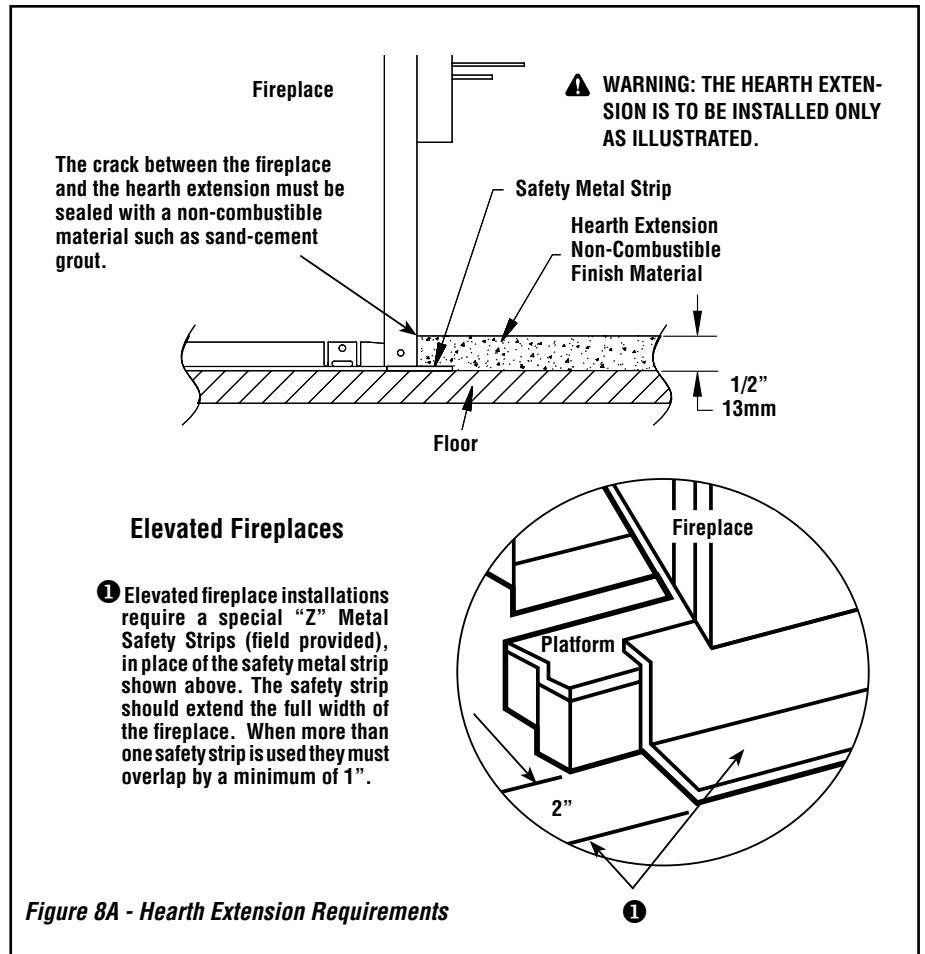

Figure 8A - Hearth Extension Requirements
(refer to **Figures 8A and 8B**)
2. The hearth extension should be secured to the floor. The gap between the fireplace and the hearth extension must be sealed. The supplied safety metal strip must be positioned as follows: One half under the front of the fireplace and the other half must extend on the floor over which the hearth extension will be built (see **Figure 8A**).
3. On a raised base or raised hearth, a "Z" shape piece of metal must be fabricated to join the bottom of the fireplace to the floor (see note 1 in **Figure 8A**).